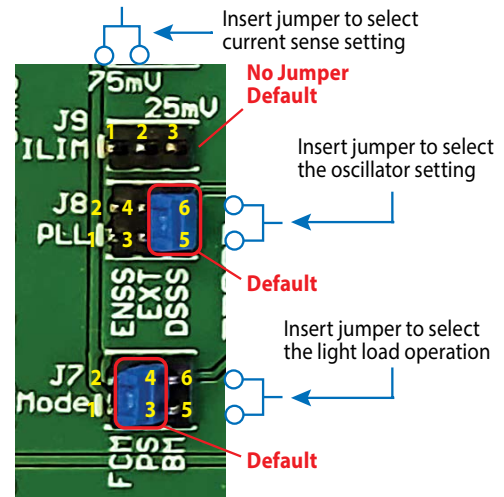

Figure 12: EPC91108 selector point locations and designations for oscillator and light load mode settings.
The EPC91108 has three light-load operating modes available which are 1) forced continuous inductor current (FCM), 2) pulse skipping (PSM), and 3) burst mode (BM). See the LTC7891 datasheet for details on each operating mode. The desired operating mode can be selected by inserting a jumper into the appropriate position on J7 with position 1-2 for FCM, position 3-4 for PSM (default) and position 5-6 for BM. Refer to Figure 12.
The EPC91108 has three oscillator setting options; 1) Disable spread spectrum (DS SS), 2) External clock, and 3) Enable spread spectrum (EN SS). See the LTC7891 datasheet for details on each setting and refer to table 1 for external clock voltage levels. The desired setting can be selected by inserting a jumper into the appropriate position on J8 with position 1-2 for EN SS, position 3-4 for External clock (Ext SYNC), and position 5-6 for DS SS (default). When selecting the external clock option, the external signal can be connected between SYNC (TP11) and GND (TP10) and must be within the specifications of the LTC7891 IC given in table 1. See Figure 12 for the location of the oscillator jumper settings.
The LTC7891 internal current comparator can be configured with one of three maximum current sense threshold settings which are 25 mV, 50 mV and 75mV. The threshold level can be selected by inserting the jumper on J9 (Figure 12) with position 1-2 for 75 mV threshold, position 2-3 for 25 mV threshold, and without inserting jumper for 50 mV threshold (default). Please refer to the LTC7891 datasheet for more information.